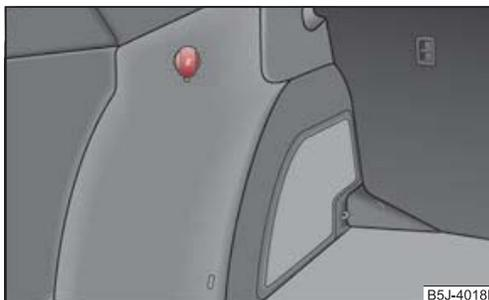

Fig. 79 Luggage compartment: Power socket
- Open the cover of the power socket ⇒ fig. 79.